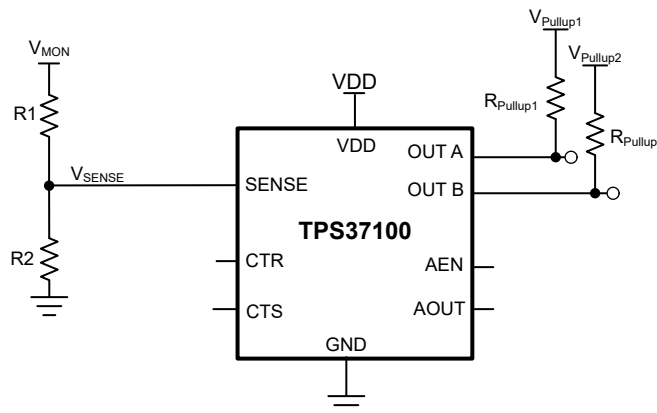

Figure 7-3. Adjustable Voltage Threshold with External Resistor Dividers
Figure 7-3 illustrates an example of how to adjust the voltage threshold with external resistor dividers. The resistors can be calculated depending on the desired voltage threshold and device part number. Adjustable voltage threshold variants bypass the internal resistor ladder.
For example, consider a 48V rail, V_{MON} , being monitored for undervoltage (UV) only using of the PPS37100Z91DDYYR variant, as shown in Figure 7-3. The monitored UV threshold, denoted as V_{MON-} , is the desired voltage where the device asserts the reset. For this example $V_{MON-} = 40V$. To assert an undervoltage reset the voltage at the sense pin, V_{SENSE} , needs to be equal or lower to the input threshold positive, V_{ITN} . For this example variant $V_{SENSE} = V_{ITN} = 0.8V$. Using R_1 and R_2 the correlation between V_{MON-} and V_{SENSE} can be seen in Equation 1. Assuming $R_2 = 2k\Omega$, and R_1 can be calculated as $R_1 = 98k\Omega$.